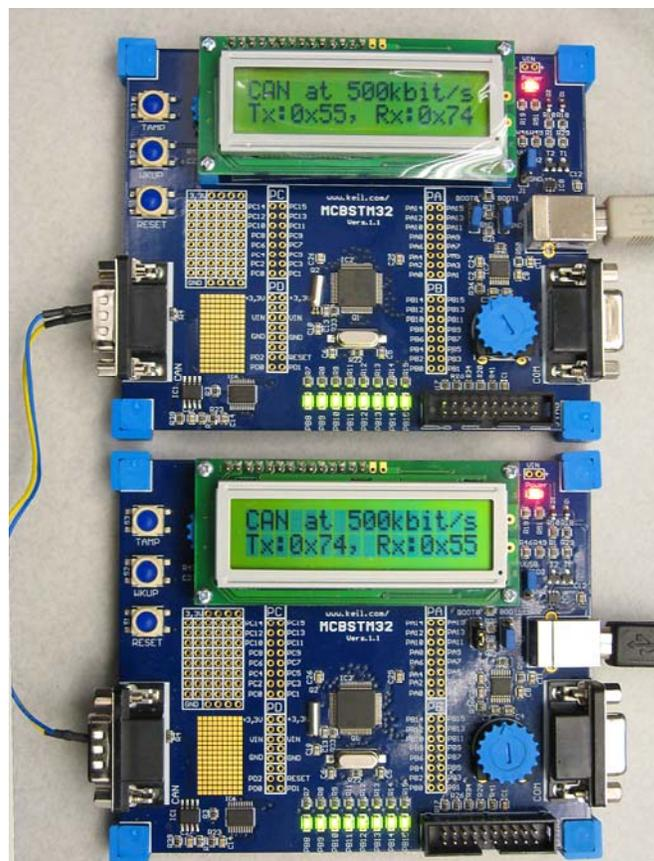

Figure 32 Two MCBSTM32 connected as 2 CAN nodes
Neat Feature: Note in the Exception Trace window as shown below in Figure 32 that two exceptions are counted: ExtIRQ 19 and 20. The number of occurrences and various times are recorded as shown. These values accumulate and can be cleared anytime by double-clicking anywhere inside the Exception Trace window.
11. The value of the pot in the Tx: field on one board will be displayed in the Rx: field on the other board. This is shown below in Figure 32.